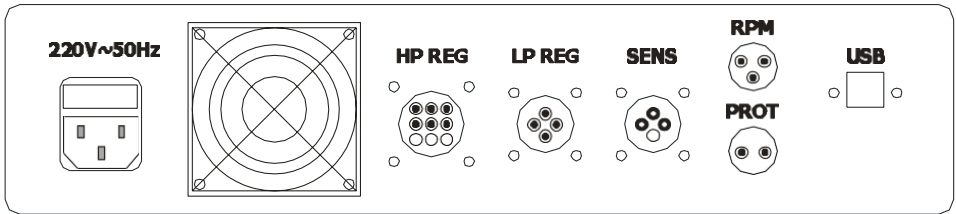

Figure 4. Back panel
- "NETWORK" for connecting the mains power ~ 220 V. The "NETWORK" connector is structurally made in one housing with a fuse (Fig. 4).